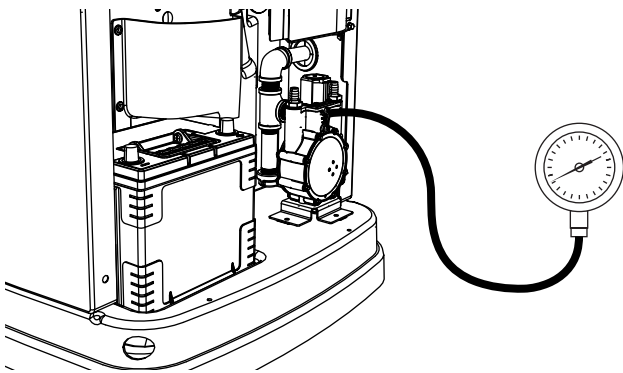

Figure 5-4. Checking Pressure with Manometer
- Remove the top gas pressure test port from the regulator (see Figure 5-4) and install the gas pressure tester (manometer).